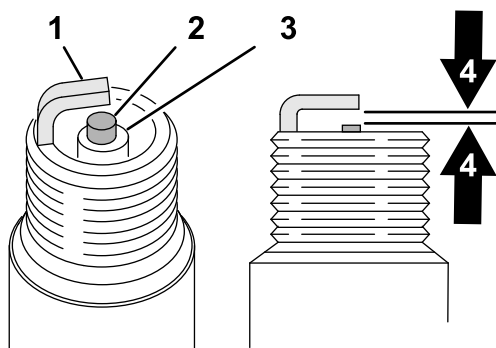

**Figure 154**
1. Look at the center of both spark plugs (Figure 154). If you see light brown or gray on the insulator, the engine is operating properly. A black coating on the insulator usually means the air cleaner is dirty.